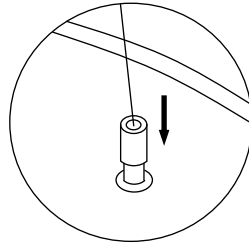

Fig 10
8. Attach the string to the holder (Fig 10).